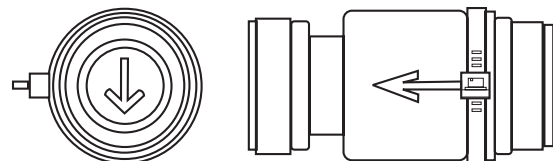

Fig. 5
3.3 When fitting the Non-return Valve (B) the flap must hinge at the top with the arrow pointing down. The arrow on the outside of the Non-return Valve should point in the direction of the flow. (See Fig. 5)